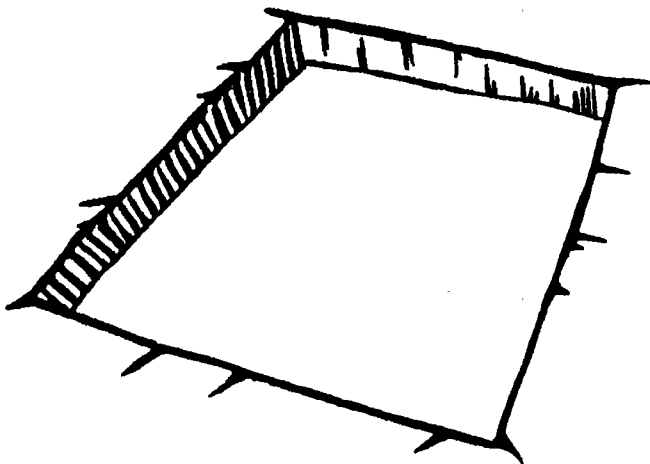

Figure 5. Preparing a pit for cover slab casting
- Dig a square, shallow pit, about 200 millimetres wider and longer than the pit and 50 millimetres deep. Be sure that the bottom of the pit is level and smooth (see Figure 5).